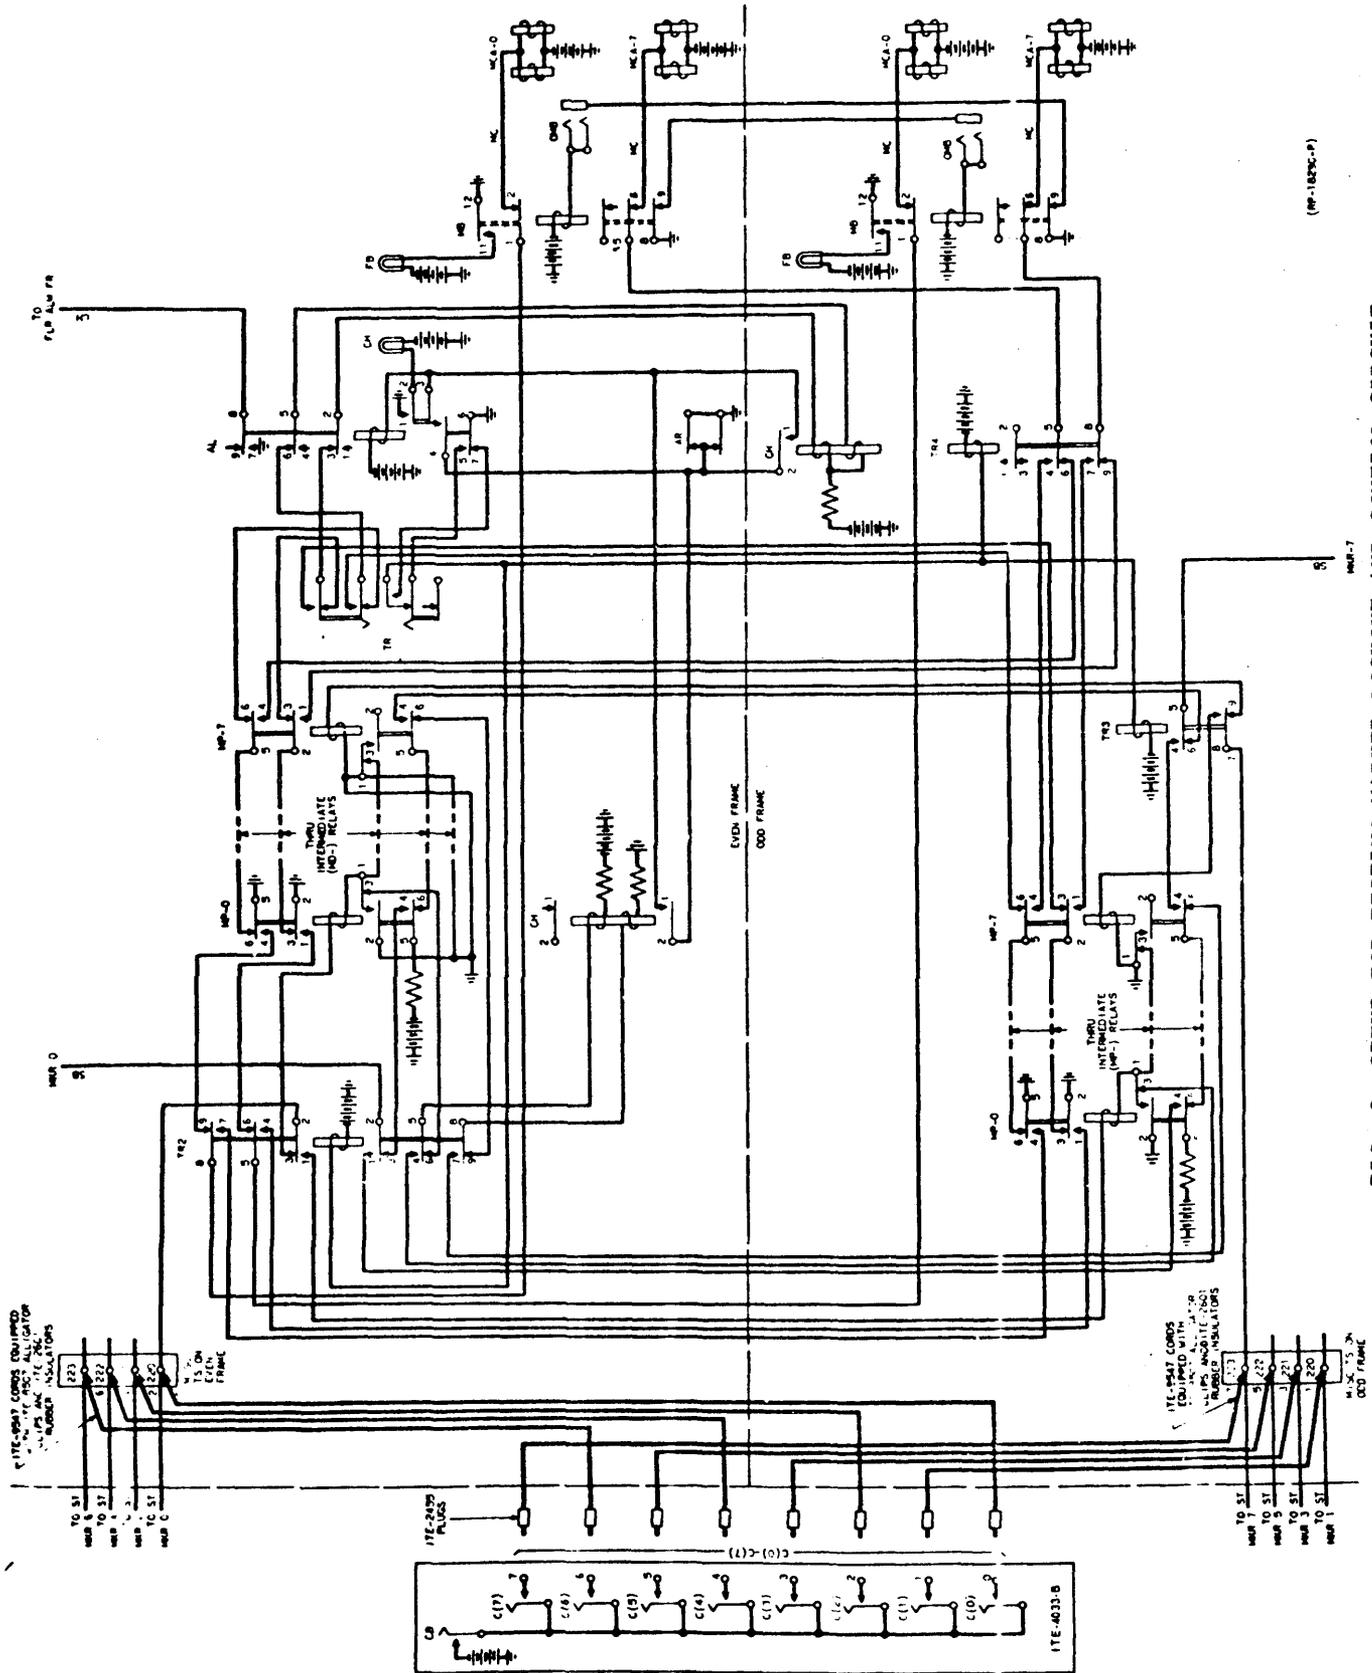

FIG. 2 SETUP FOR TESTING MARKER LOCKOUT AND CONTROL CIRCUIT
7. MARKER LOCKOUT AND CONTROL CIRCUIT (See Figure 2)